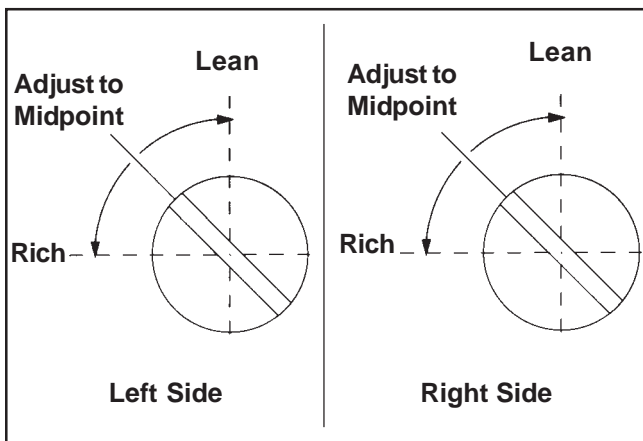

Figure 19. Optimum Low Idle Fuel Settings.
- a. Turn one of the low idle fuel adjusting needles out (counterclockwise) from the preliminary setting until the engine speed decreases (rich). Note the position of the needle. Now turn the adjusting needle in (clockwise). The engine speed may increase, then it will decrease as the needle is turned **in** (lean). Note the position of the needle. Set the adjusting needle midway between the rich and lean settings. See Figure 19.